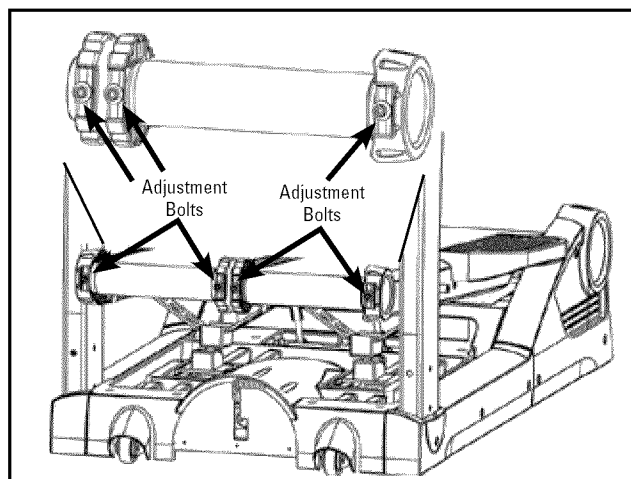

Figure 1 - Walking belt alignment (exploded view)
1. Visual Test – Stand beside the unit and set the speed at 1.5 mph. Stand in front of the unit to see the adjustment bolts on each end of each front roller (Figure 1).